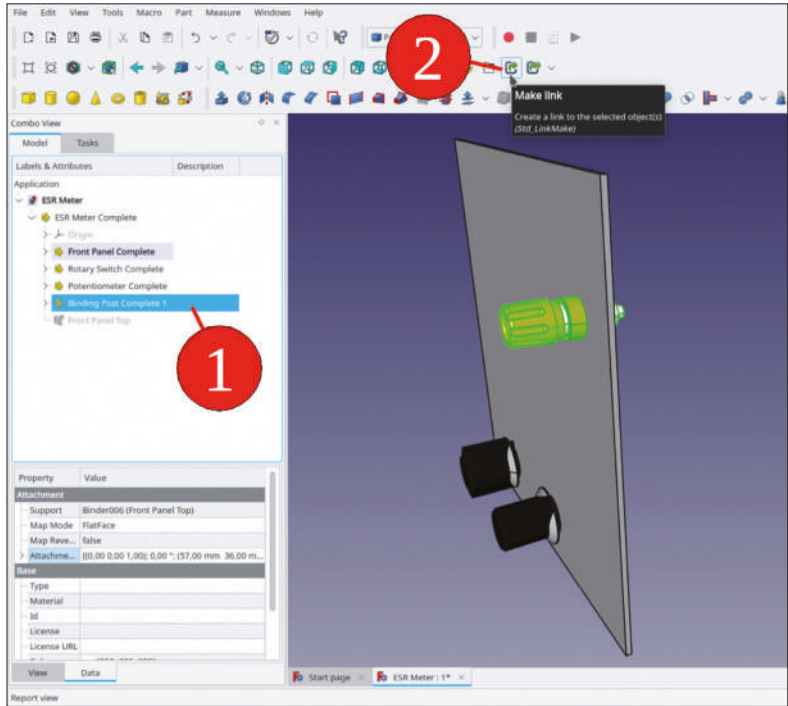
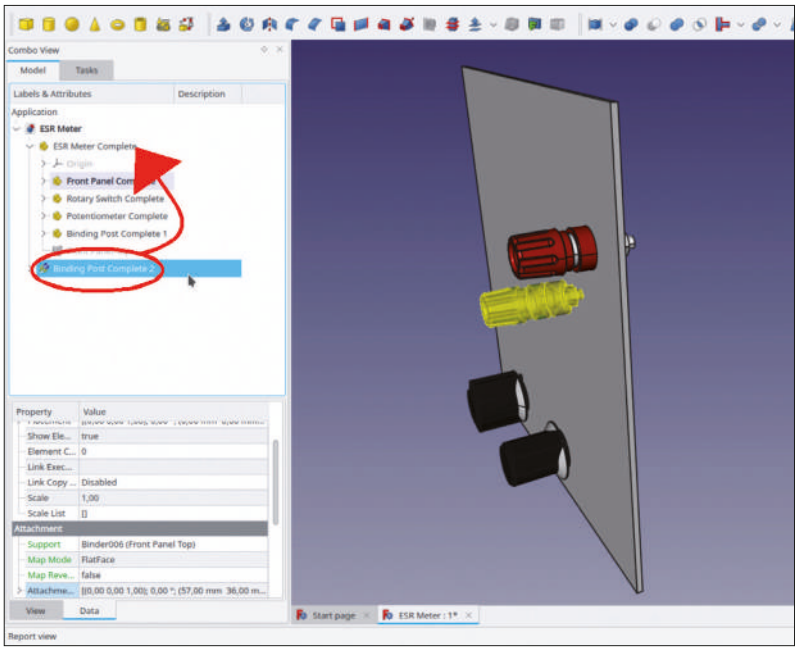

Figure 7-31
Figure 7-32
16. In the tree view, mark 'Binding Post Complete 1' and click the 'Make link' tool button (Figure 7-31). Rename the new Std-Part-Container to 'Binding Post 2'. Drag-and-drop it into the Std-Part-Container 'ESR Meter Complete' (Figure 7-32).